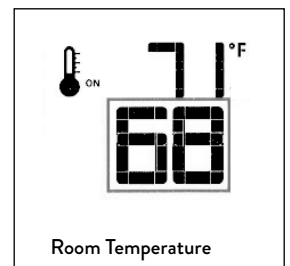

Fig. 14.12. Change Set Temperature.
- To adjust the Set Temperature, press the Up or Down Arrow Keys until the desired Set Temperature is displayed. Fig. 14.12.